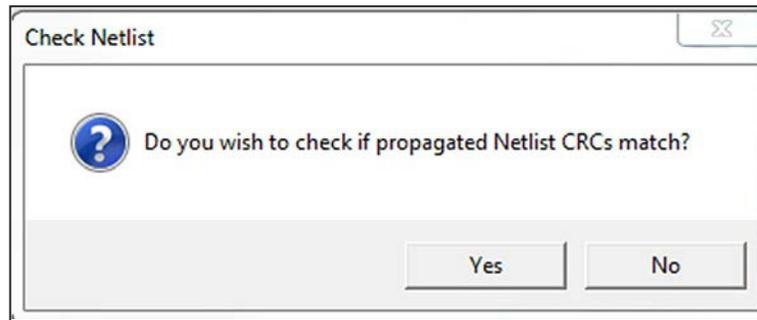

Figure 142. Check Netlist dialog box.
- STEP 5.** The Check Netlist dialog box opens. See Figure 142 on page 130. This gives the option to verify the circuit data in the field devices matches the presently loaded circuit.
**STEP 6.** Click on the **No** button to skip this check. Performing the check is recommended. Click on the **Yes** button in the Check Netlist dialog box. See Figure 142. If the Netlist check is not successful, it is recommended not to proceed and confirm the correct IntelliTeam Designer circuit was opened.